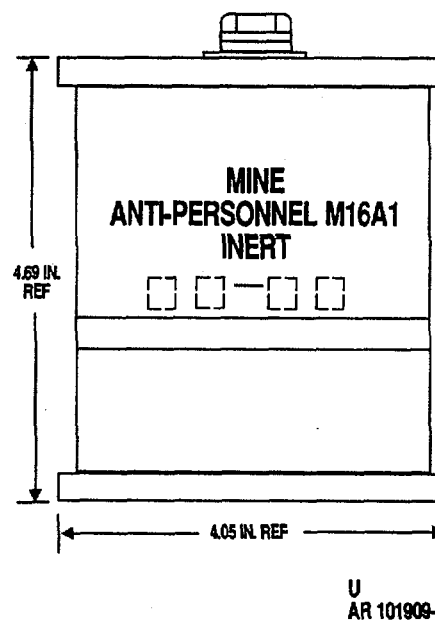

Figure 1-2. Mine, antipersonnel: M16A1 inert.
(1) The M16A1 inert mine (fig. 1-2) is used for training and handling only. It contains no explosive components and uses the M605 inert fuze.